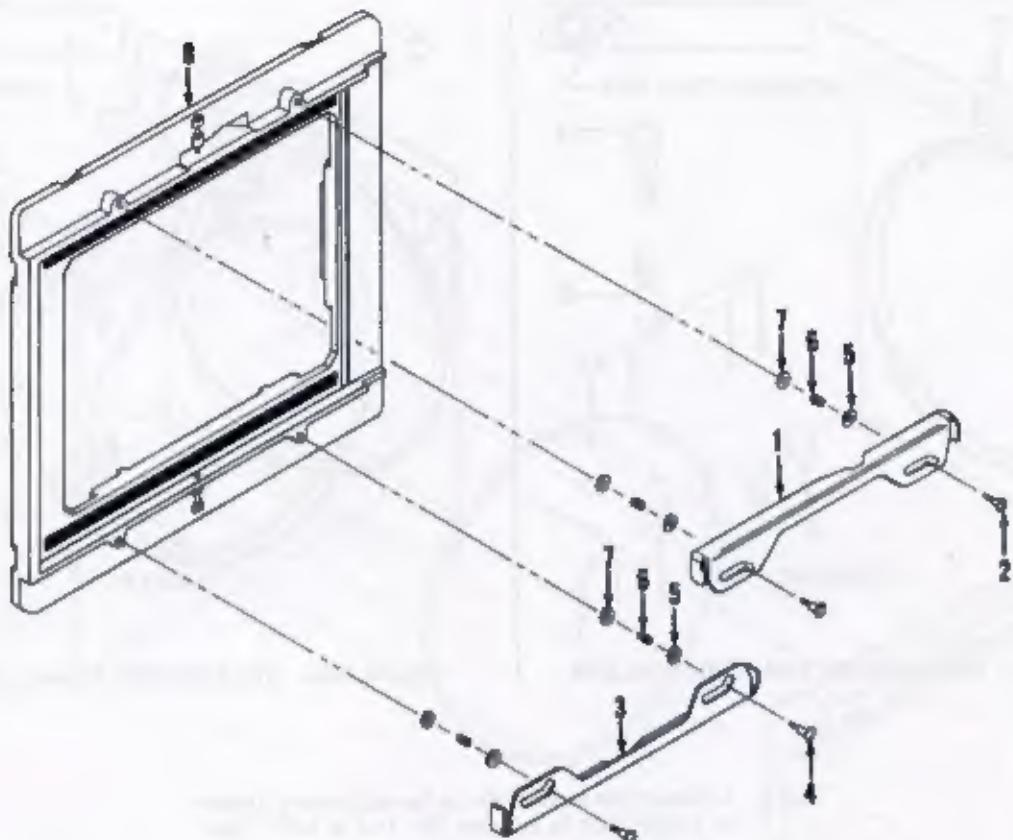

Figure 12C. REVOLVING FRAME COMPLETE
X. 2. REVOLVING FRAME COMPLETE - DISASSEMBLY AND REASSEMBLY (Figure 12C)
a. Remove two machine screws (2), upper slide lock (1), and two each flat washers (3), slide lock springs (6) and flat washers (7).
b. Remove two machine screws (4), lower slide lock (3), and two each flat washers (6), slide lock springs (5) and flat washers (7) from frame assembly